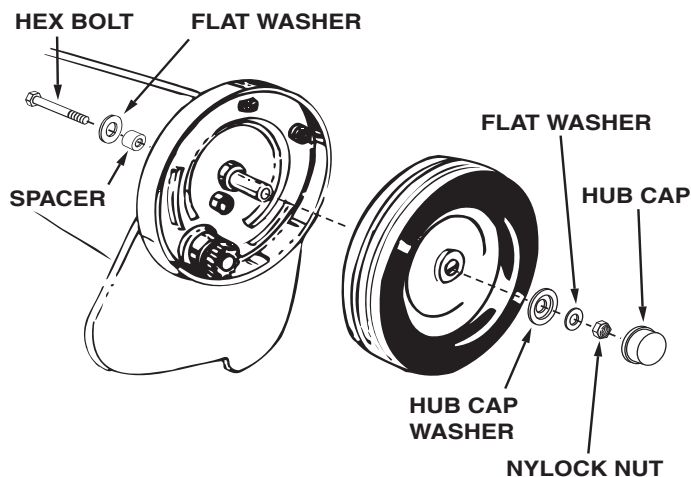

FIGURE 28
5. Every two years, remove the wheels and clean the gears found inside the wheel housing. After cleaning, lubricate the gears with an even coat of light grease. To remove the wheel, pop off the hub cap and remove the lock nut, flat washer and hub cap washer. See figure 28.